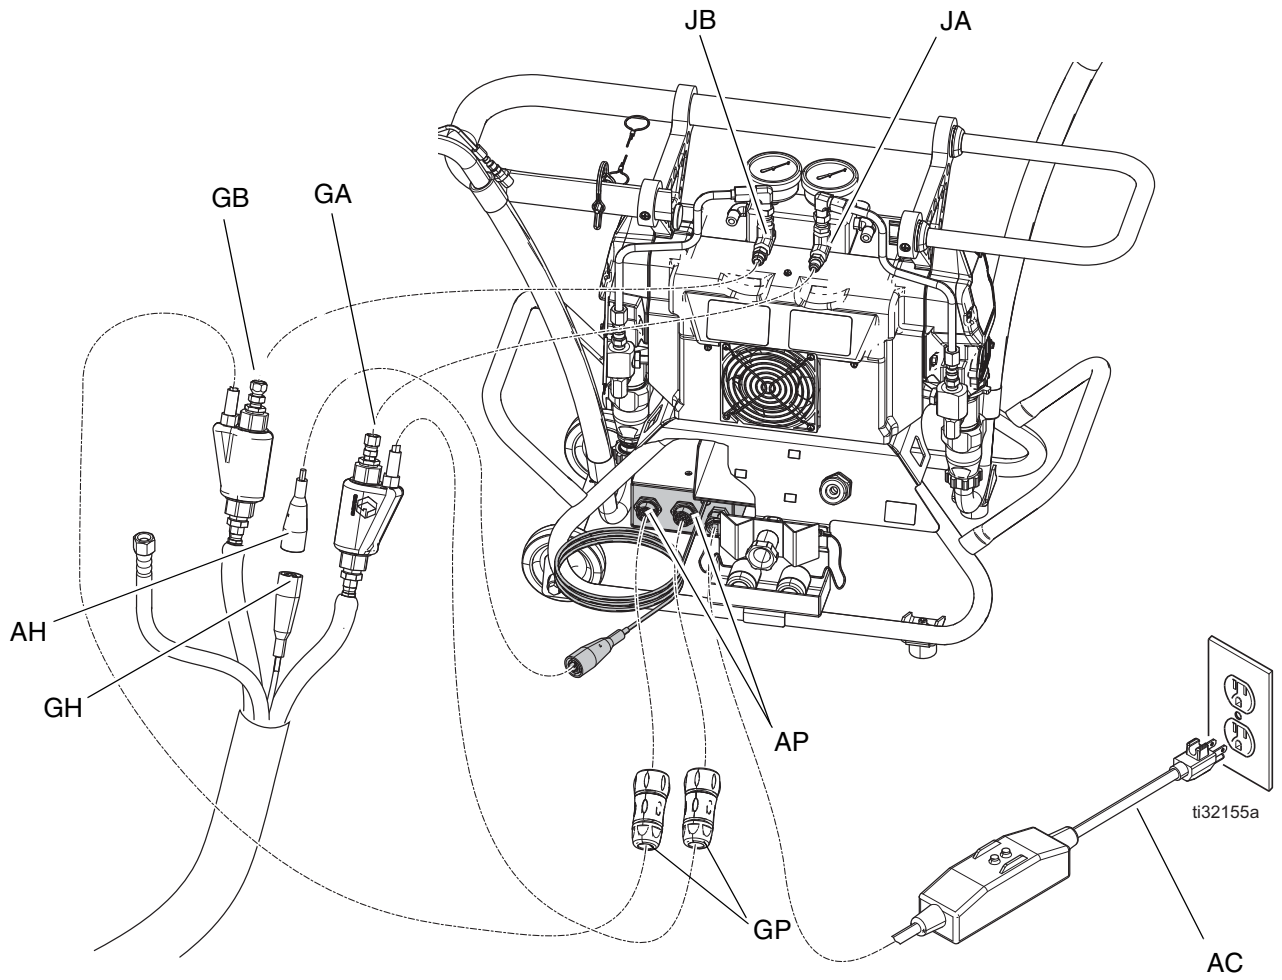

FIG. 15: E-8p Hose Installation (120 V shown)
2. Attach the heated hose inlet fittings (GA, GB) to the E-8P outlet manifold (JA, JB). See FIG. 15.
3. Connect the hose power cords (GP) to the control box connectors (AP).
4. Connect the FTS cable (AH) from the control box to the hose FTS extension cable (GH).
5. **Purge Air and Flush Fluid from Lines (Prime)**, page 34. Ensure clean material is exiting both fluid hoses before connecting the control module power cord (AC) to a power source.